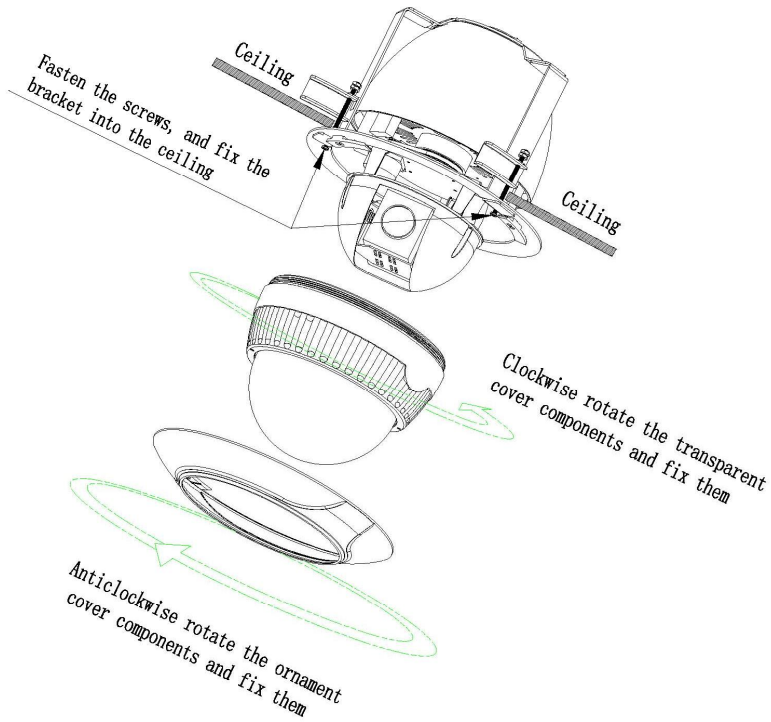

Figure 12
5. Install the bracket components into the installation hole, fasten the screws to fix the bracket; clockwise rotate and fasten the transparent cover, and then anticlockwise rotate the ornament cover components to install them, as per figure 12.
As shown in Figure 12, SW1 is used to set address of the dome camera from 1 – 1023. The coding switches from DIP-10 to DIP-1 are equivalent to a 10-bit binary digital. DIP-10 is MSB while DIP-1 is LSB. The state “ON” of each bit means 1 while “OFF” means 0. Following table shows states of coding switches of some addresses.
As shown in Figure 12, SW2 is used to set the protocol of communication and the baud rate used by the dome camera. DIP-4 to DIP-1 of SW2 is used to select protocols and 16 different protocols can be selected in maximum. Following table shows states of coding switches of protocols selected by the dome camera.
As shown in Figure 12, SW2 is used to set the protocol of communication and the baud rate used by the dome camera. DIP-6 and DIP-5 of SW2 are used to select the baud rate of communication and 4 different baud rates can be selected in maximum. If the controller adopts non-standard baud rate, you can adjust it to be identical with that of the main machine as per the following table.